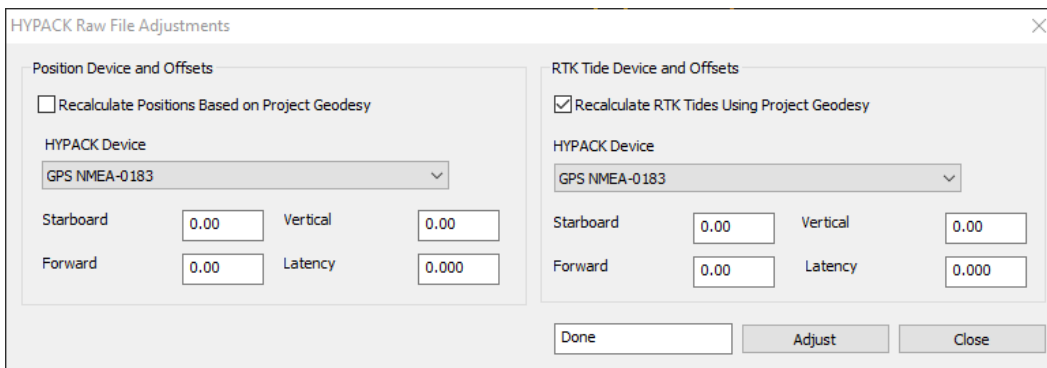

Figure 19.— HYPACK Raw File Adjustments window via Tools in the SBMAX64 menu bar.
- Then, under Tools in the SBMAX64 menu bar, open “HYPACK Raw File Adjustments.” Check the “Recalculate RTK Tides Using Project Geodesy” box under RTK Tide Device and Offsets. Set HYPACK Device to the GPS device. Click “Adjust” when it shows “Done,” then click “Close” (figure 19).